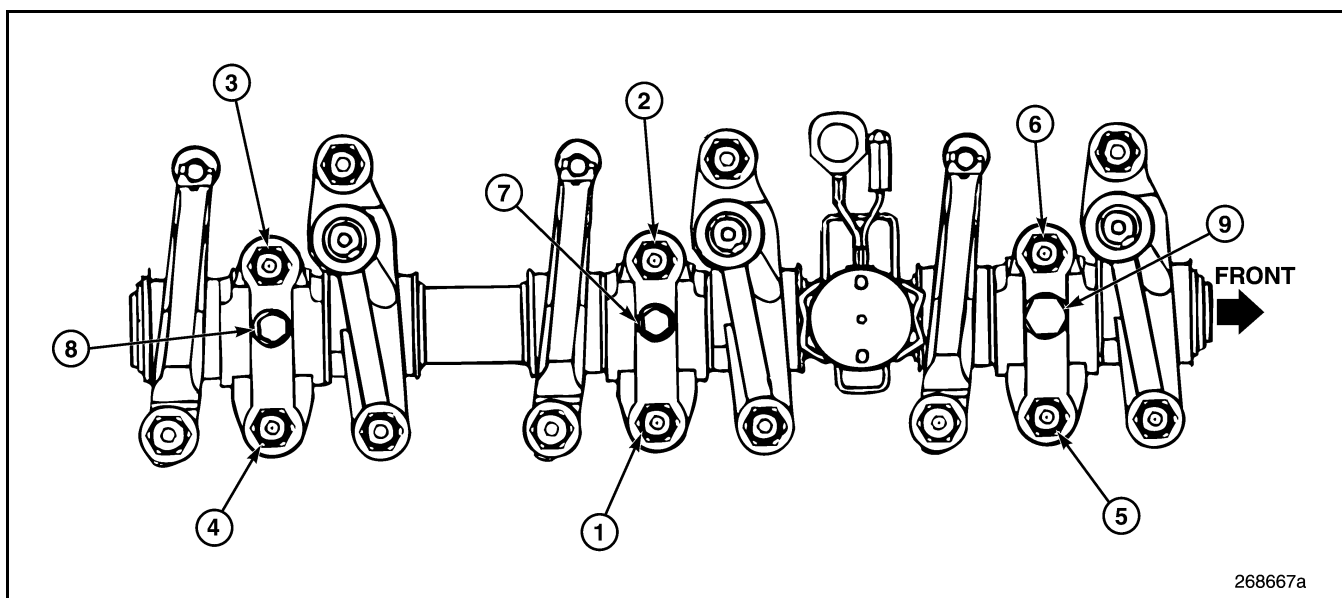

Figure 389 — Tightening Sequence — Rocker Shaft Mounting Bracket and Locating Bolts
5. Beginning at the center mounting bracket with bolt No. 1 (as shown in Figure 389), tighten each rocker shaft mounting bracket bolt evenly (in the sequence shown in Figure 389), keeping the rocker shaft assembly level until the brackets are against the cylinder head. When the brackets have contacted the cylinder head, tighten the mounting bracket bolts in the sequence shown, using a two-step process; first tighten the mounting bolts to 25 lb-ft (34 N•m), then, using the same sequence, tighten the mounting bolts to 45 lb-ft (61 N•m).
6. After the rocker shaft mounting bracket bolts have been properly tightened (bolt Nos. 1 through 6 in Figure 389), tighten the center and rear mounting bracket-to-rocker shaft locating bolts (bolt Nos. 7 and 8 in Figure 389) to 18 lb-ft (24 N•m). The front mounting bracket-to-rocker shaft bolt (bolt No. 9 in Figure 389) can be tightened to 23 lb-ft (31 N•m) anytime during the process.